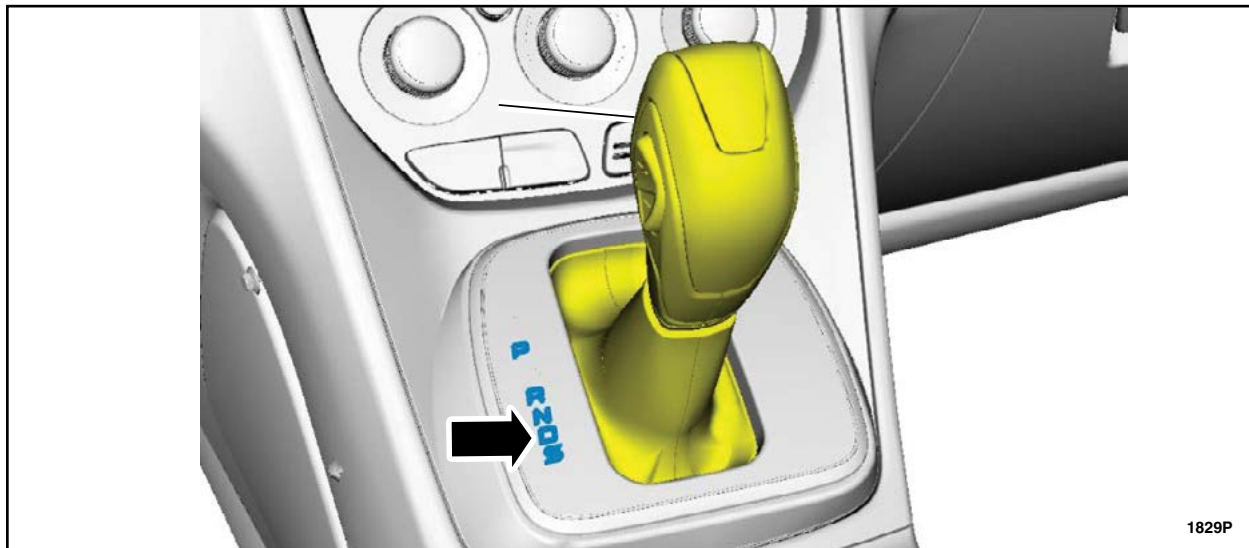

FIGURE 10
- The vehicle's transmission gear selector lever should be in Drive position from step 2, if not, position the selector lever to Drive (D). See Figure 10.